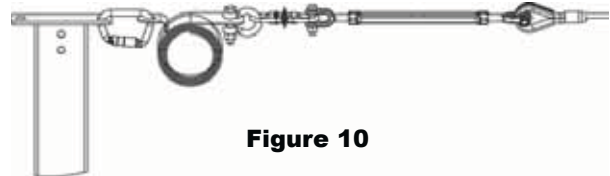

Figure 10
1. Connect the shock absorber assembly to the top of the end stanchion using the auto-locking carabiner *(see Figure 10)*.